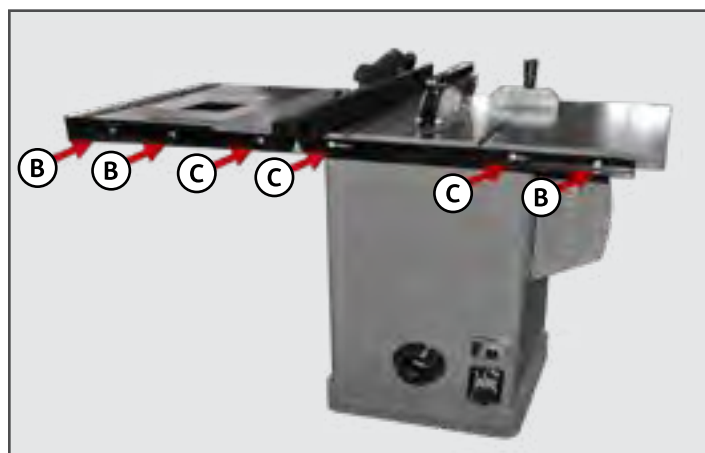

FIGURE 11: RAIL INSTALLATION LOCATIONS
2. Install one 1/4" flat washer (3), lock washer (4) and hex nut (5) on each flat head screw. See Figure 11.